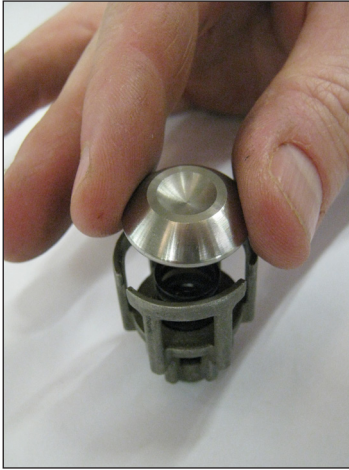
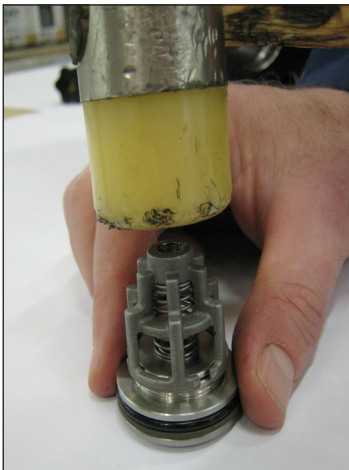

Fig. 24
Fig. 25
- 1 Do not invert the suction springs with the previously disassembled outlet springs during assembly of the suction and outlet valve units (Fig. 24, Fig. 25):